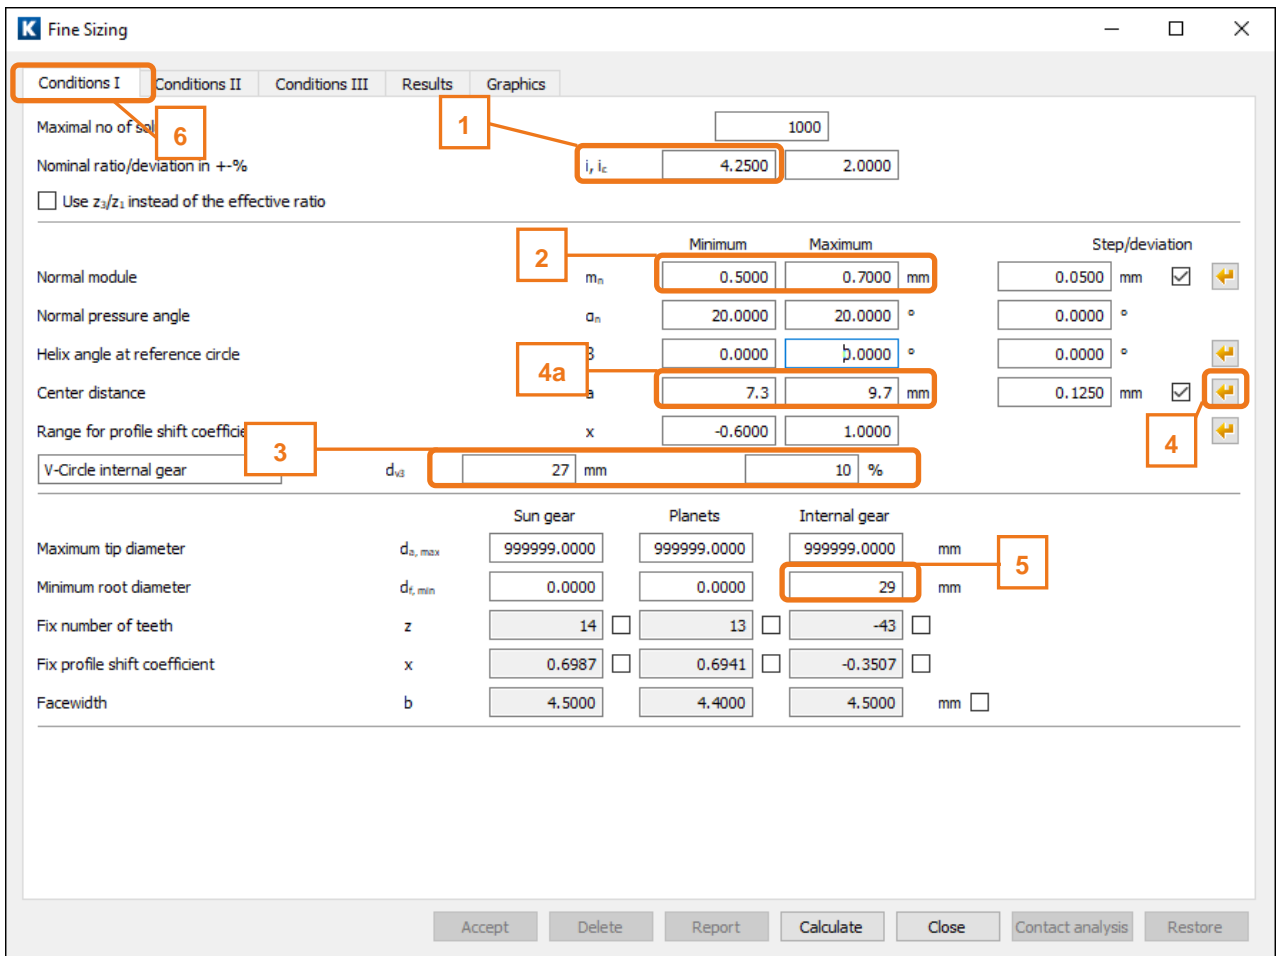

Figure 19. Settings for Fine sizing
Click the «Sizing button» for the center distance (4) to display the possible value range for this value. In order to force the gear's root diameter to be small enough to ensure sufficient material remains below the tooth root, you must input a suitable value in the relevant field (here: $35 - 2 \cdot 3 \text{ mm} = 29 \text{ mm}$) (5), see Figure 19.